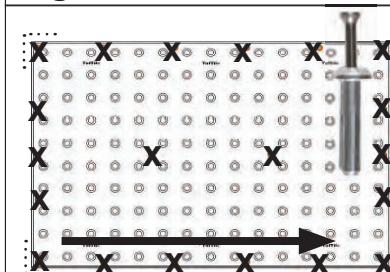

Fig. 5
7. Moving across the panel, (→) drill holes in all the provided locations in the panel and insert Drive Pins in each. Hammer the pins as you go. **(Figure 5)**